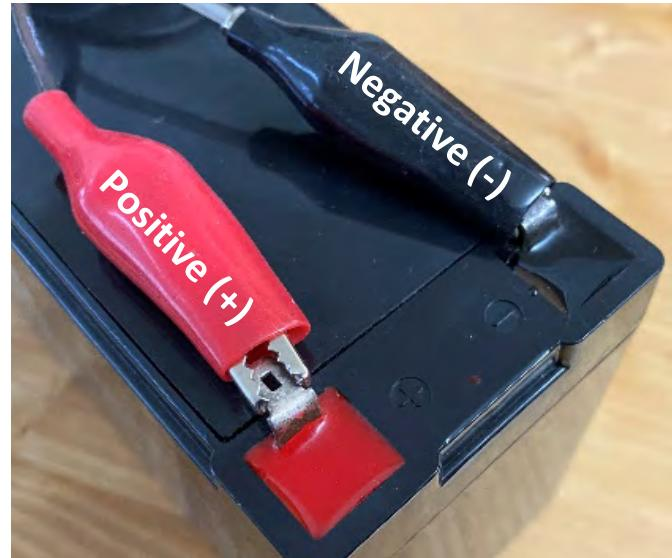

Figure 15
- Connect the controller's power cord to the battery. Connect the alligator clip with the red insulator to the positive battery terminal (red marking and + symbol) and the alligator clip with the black insulator to the negative battery terminal (black marking and - symbol). (Figure 15)